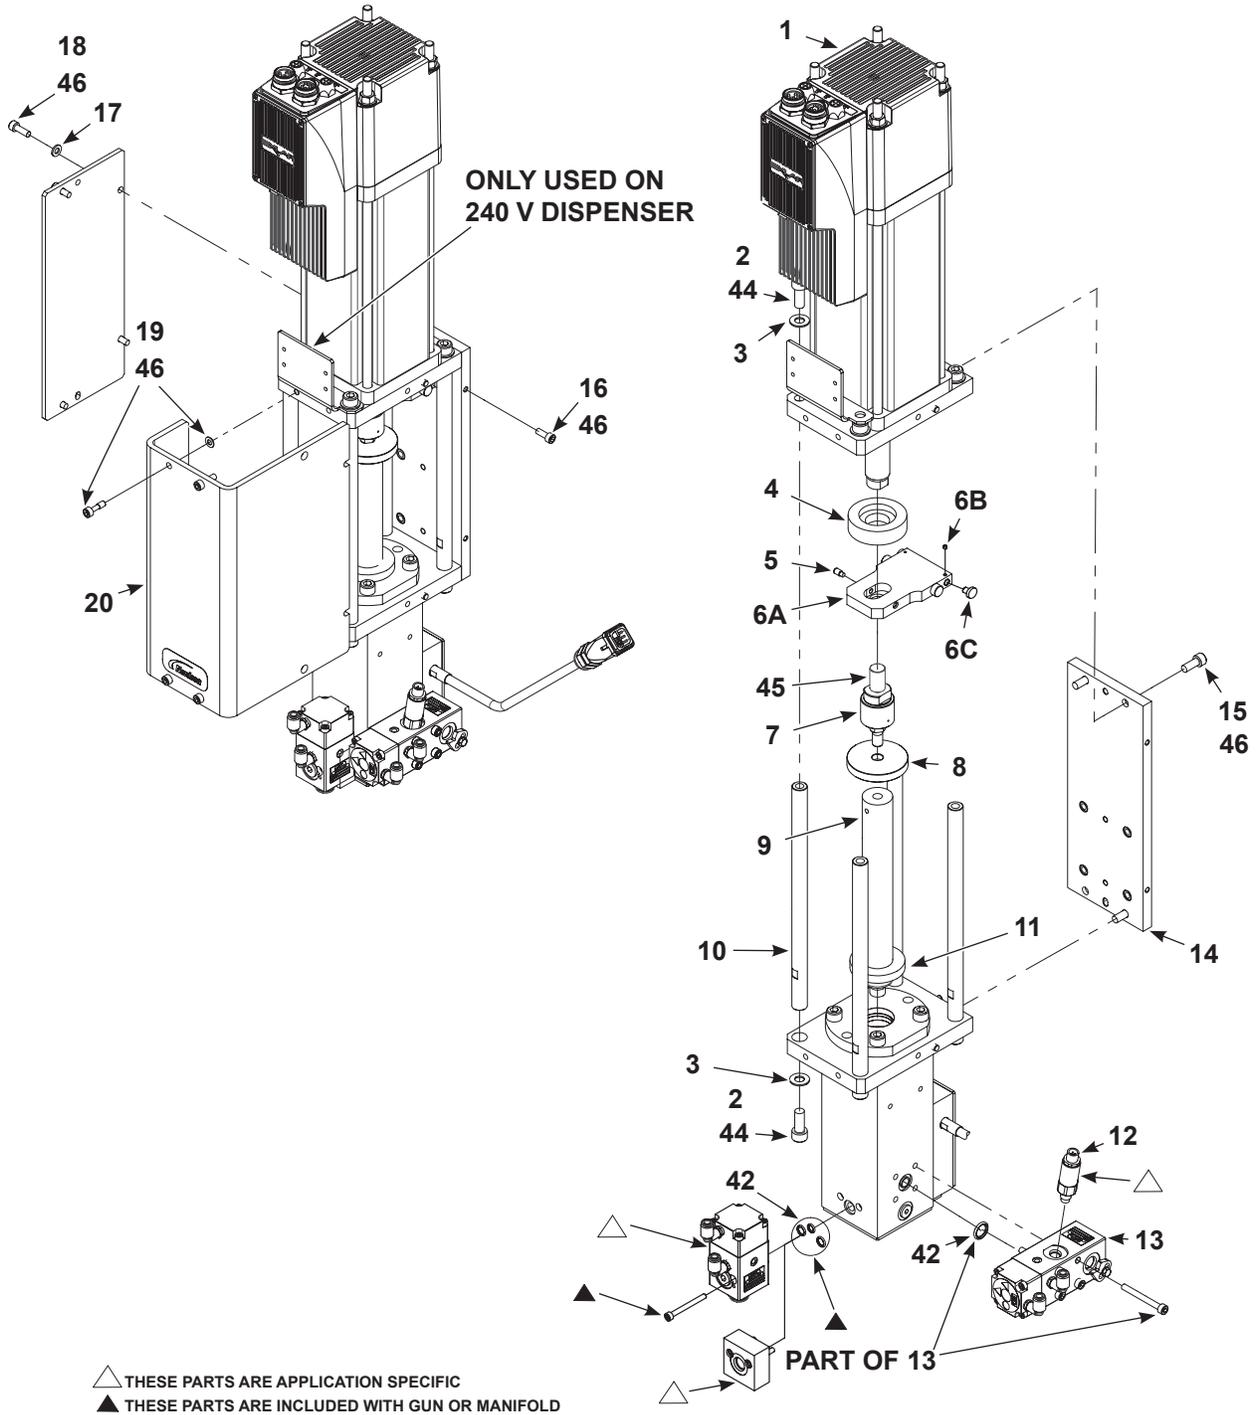
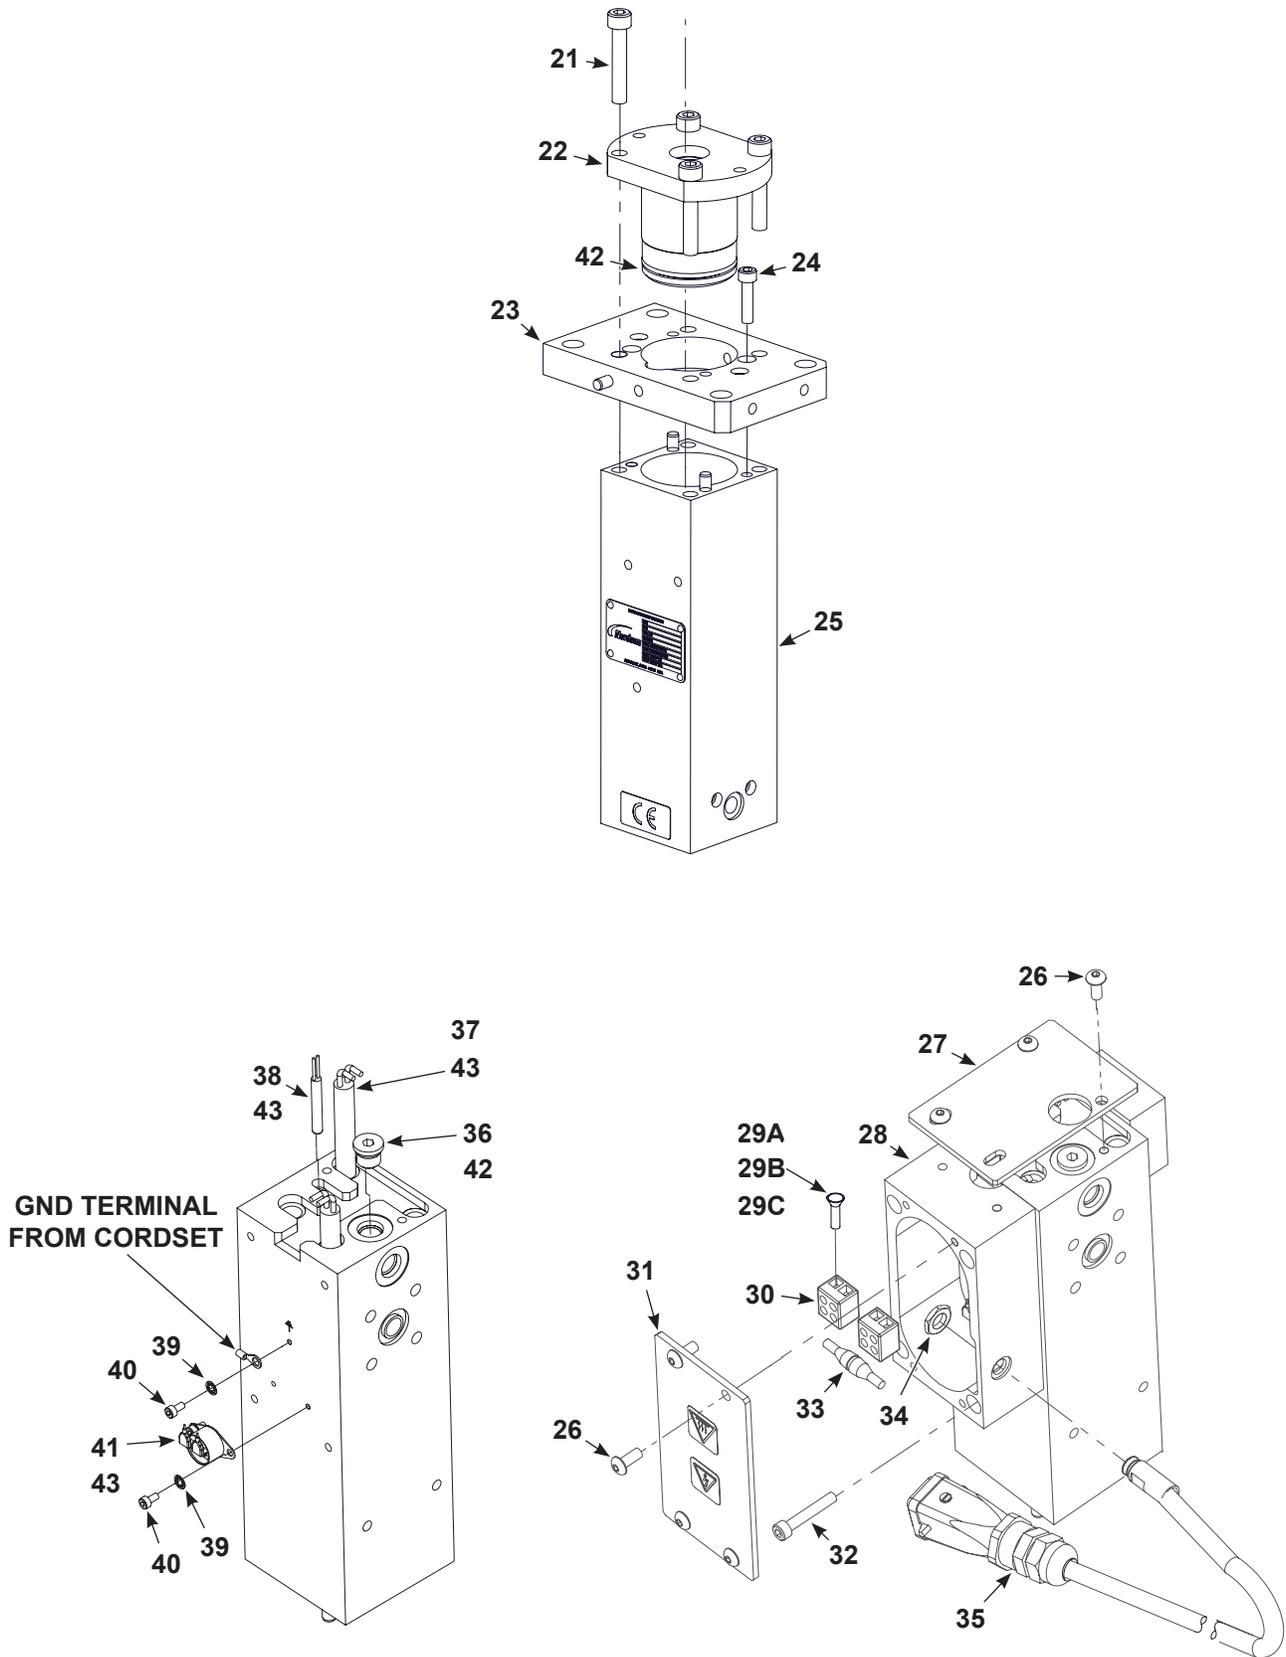
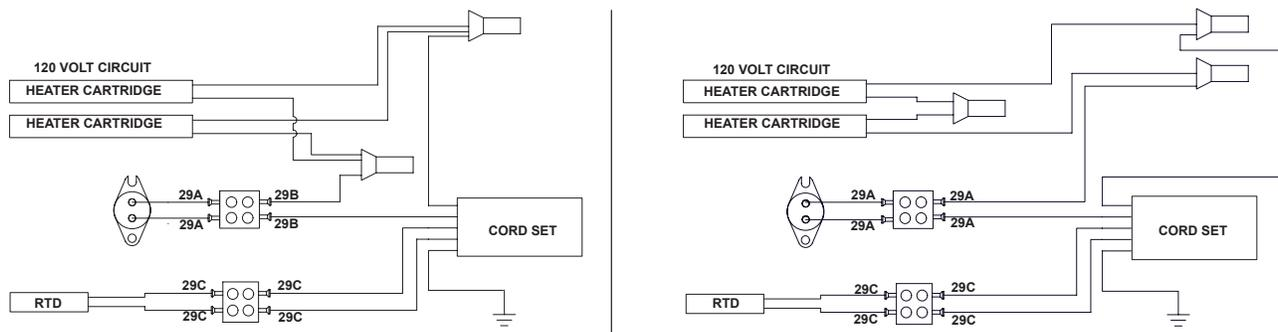

Figure 35 S100 120/240 V Heated E-Net Dispenser Parts
Figure 36 S35 120/240 Volt Heated E-Net Dispenser Parts (Continued)
Figure 37 S35 120/240 Volt Heated E-Net Dispenser Parts (Continued)
See Figure 35, Figure 36, Figure 37, and the parts list that begins on page 69.
D. See Figure 37 for ferrule location.